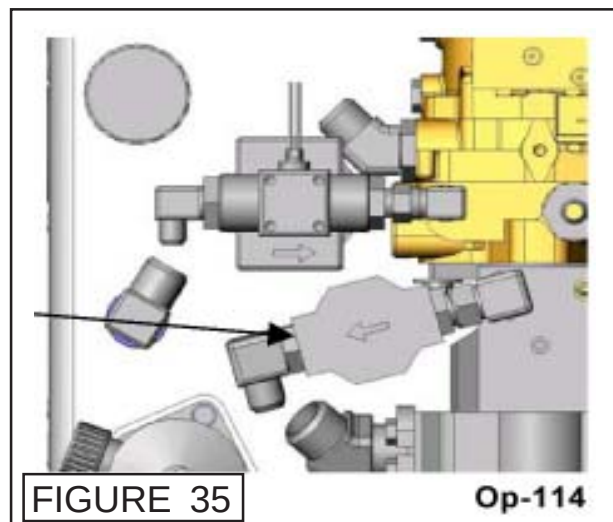

FIGURE 35
4. The Valve Pressure Filter Switch The Valve pressure filter switch is located at the pressure filter in the valve pressure circuit, between the closed center load sense pump and the control valve (See Figure 35). The sensor monitors the back pressure created by the filter element when in use. When the back pressure reaches a setting of 50 psi the switch will trigger and prompt the operator for a filter element change.